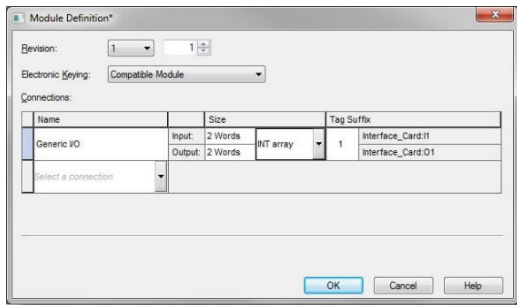

Figure 35: AOP Generic I/O Module Definition
- 3) Configure the Generic I/O connection. Refer to Figure 35.